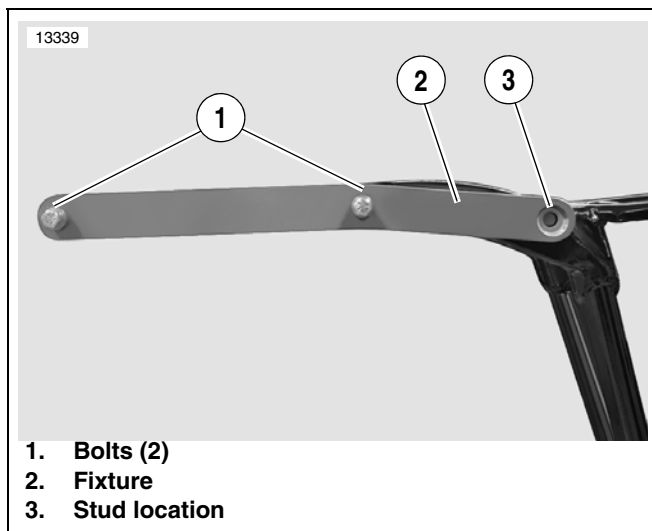

Figure 3. Frame Fixture
3. See Figure 3. Place fixture (2) in place on frame. Install two bolts (1) from kit through the fixture and rear fender forging.